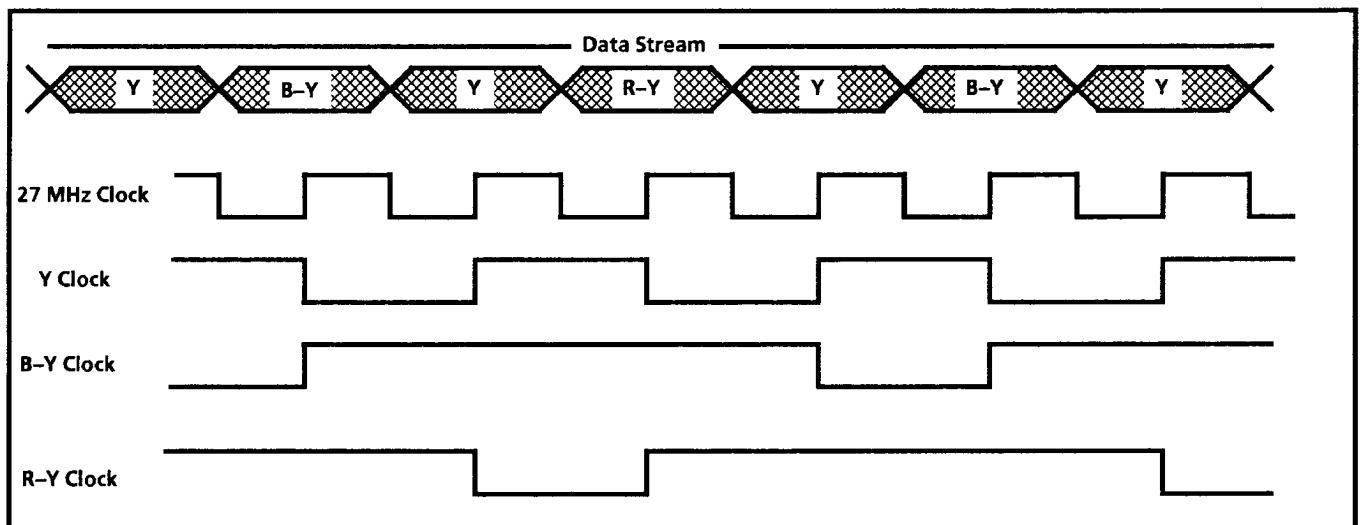

Fig. 4-7. Clock output timing relationships.
27 MHz Clock	ECL levels. Positive transition during each data packet. See Fig. 4-7.
Y Clock	ECL levels. Positive transition during Luminance (Y) data packets. See Fig. 4-7.
R-Y Clock	ECL levels. Positive transition during R-Y data packets. See Fig. 4-7.
B-Y Clock	ECL levels. Positive transition during B-Y data packets. See Fig. 4-7.